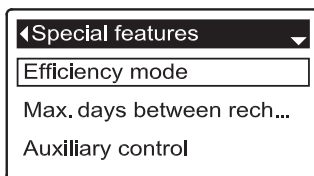

FIG. 135
5. Press the SELECT (O) button to display the Special features menu (See Figure 135).
9. Press the SELECT (O) button. The display will go back to the Special features menu (Figure 135).